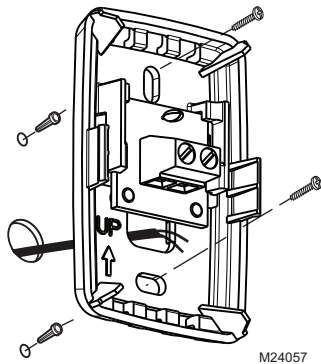

Fig. 71. Mount wallplate to wall.
5. Place wallplate over anchors, insert and tighten mounting screws (see Fig. 71).